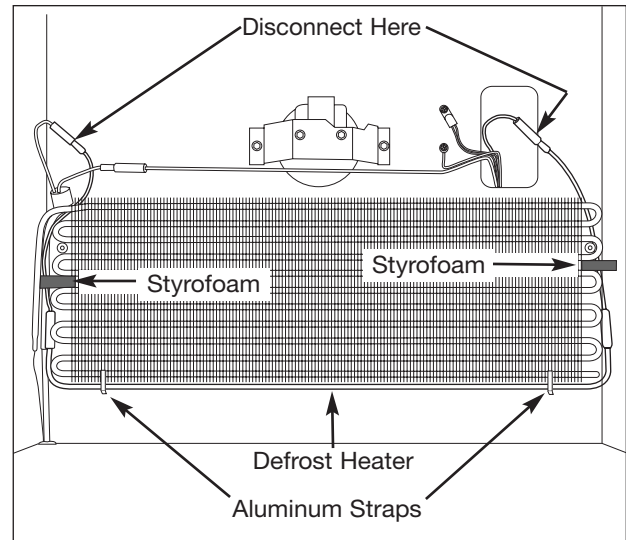

Figure 5-22. Defrost Heater Removal
4. Disconnect the defrost heater wire leads from the wire harness. (See Figure 5-22)